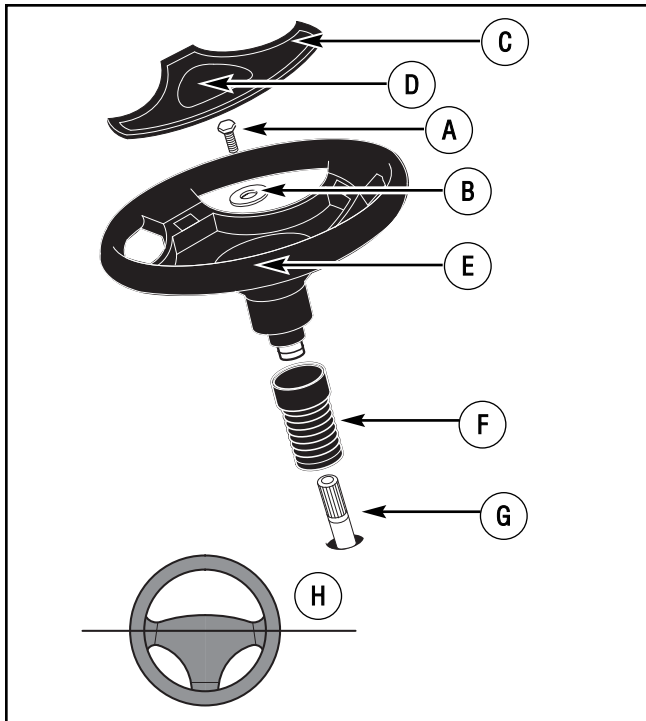

Figure 7: Steering post
2. Slide the **bellows** over the **steering post** (Figure 7).
**NOTE:** Before attachment of the steering wheel, make sure that the front wheels point forward and are straight. For proper alignment of the steering wheel, see Figure 7.